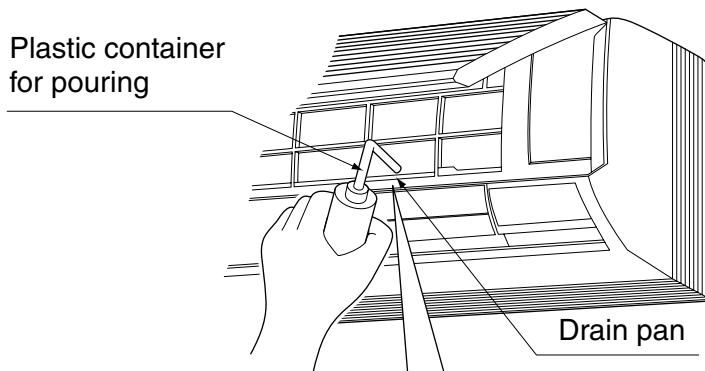

Fig. 19
(2) Make sure the drain works properly.
- After drain work is complete, perform a drain check by opening the front panel, **removing the air filter**, pouring water into the drain pan, and making sure water flows smoothly out of the drain hose. **(Refer to Fig. 19)**